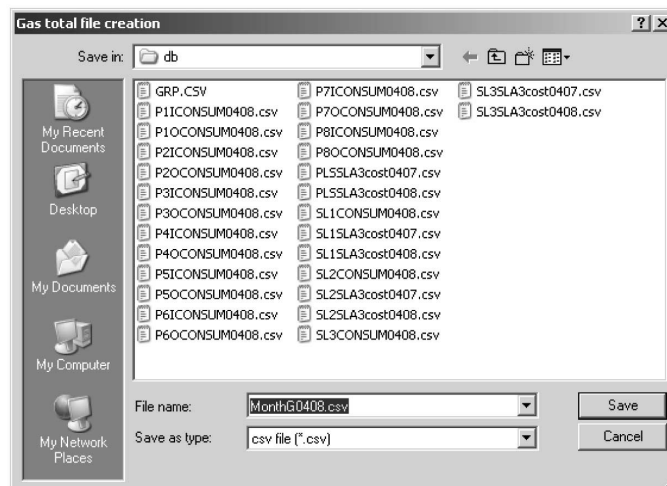

Fig.11 Input the file name dialog box
1. When you click the check box “The gas energy consumption”, Fig.11 dialog box will appear. If you want to change the file name, the folder name and the drive name, select another drive name and the folder name, and type another file name that you want.